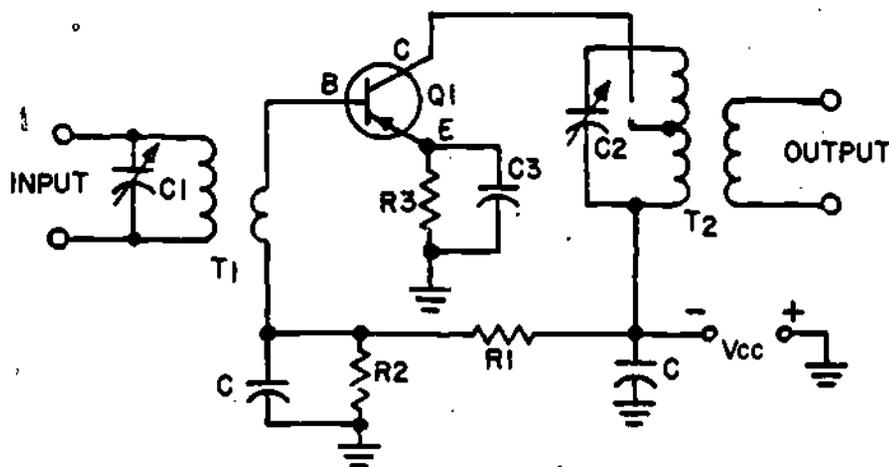

Figure 7
- ⑤. NOW let's look at the diagram of a typical common-emitter IF amplifier stage shown in Figure 7.
You recall that single-tuned transformer coupling has only one tuned tank, and that double-tuned transformer coupling has two tuned tanks. Double-tuned transformers are quite common in IF stages when a narrow bandwidth is desired. However, the bandwidth requirements for the circuit in Figure 7 are best provided by the single-tuned tanks. In the figure, neutralization components have not been included. You will find that neutralization components are often added to amplifiers operating at high intermediate frequencies.
In Figure 7, the coupling circuits are (single/double) - tuned, and the amplifier has (some/no) neutralization components.